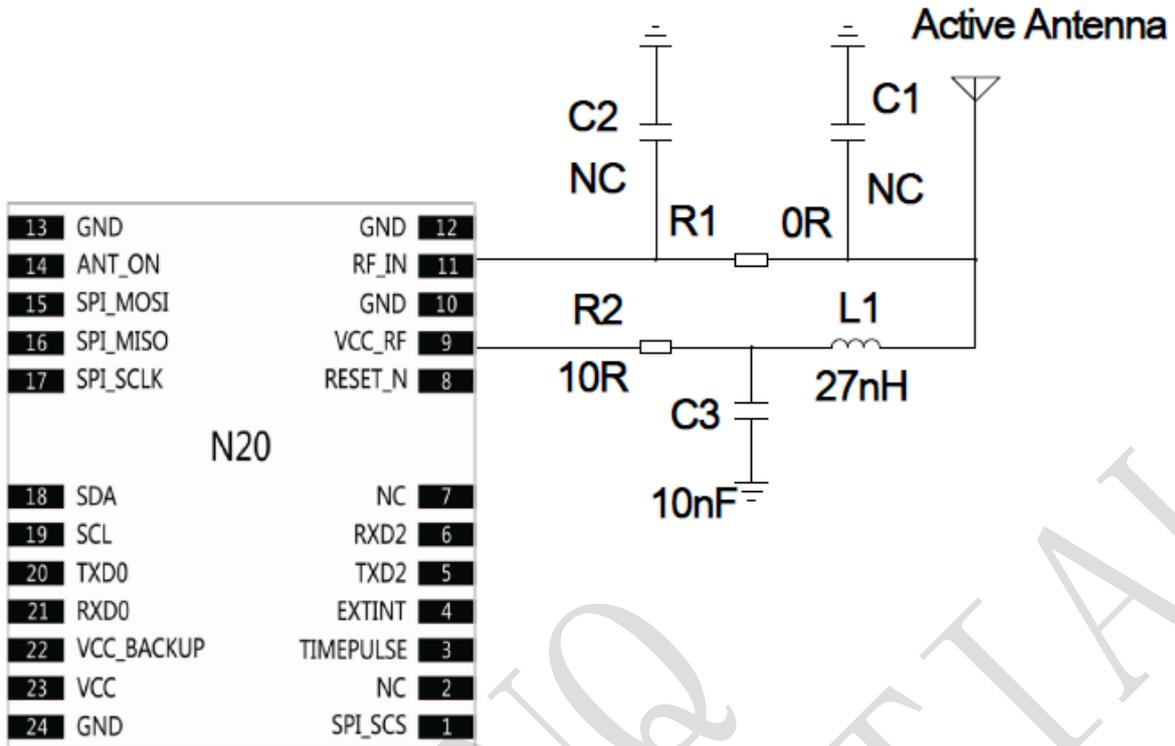

Figure 7 N20 Active antenna simplified design
- Usually Pin 9 VCC_RF is directly used for the active antenna power input, as shown in Figure 7. The voltage domain is VCC, typical value is 3.3V, and the max driver current is 50mA. If the VCC_RF voltage does not meet the requirements for powering the active antenna, an external LDO should be used. The inductor L1 is used to prevent the RF signal from leaking into the VCC_RF pin and route the bias supply to the active antenna, the recommended value of L1 is no less than 27nH. R2 can protect the whole circuit in case the active antenna is shorted to ground.